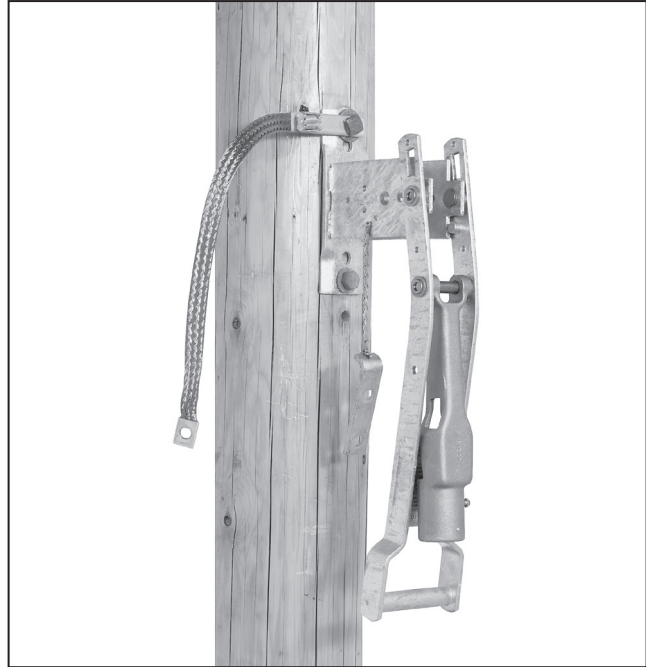

Figure 16. Mounting the operating handle.
STEP 14. Mount the operating handle assembly as shown on the erection drawing. At the same time, use one of the mounting bolts to attach one end of the ground strap (the end with the grounding connector attached) to the handle mounting plate.■See Figure 16.
Remove the 45-degree positioning stud from each rod guide. See Figure 16 on page 16.